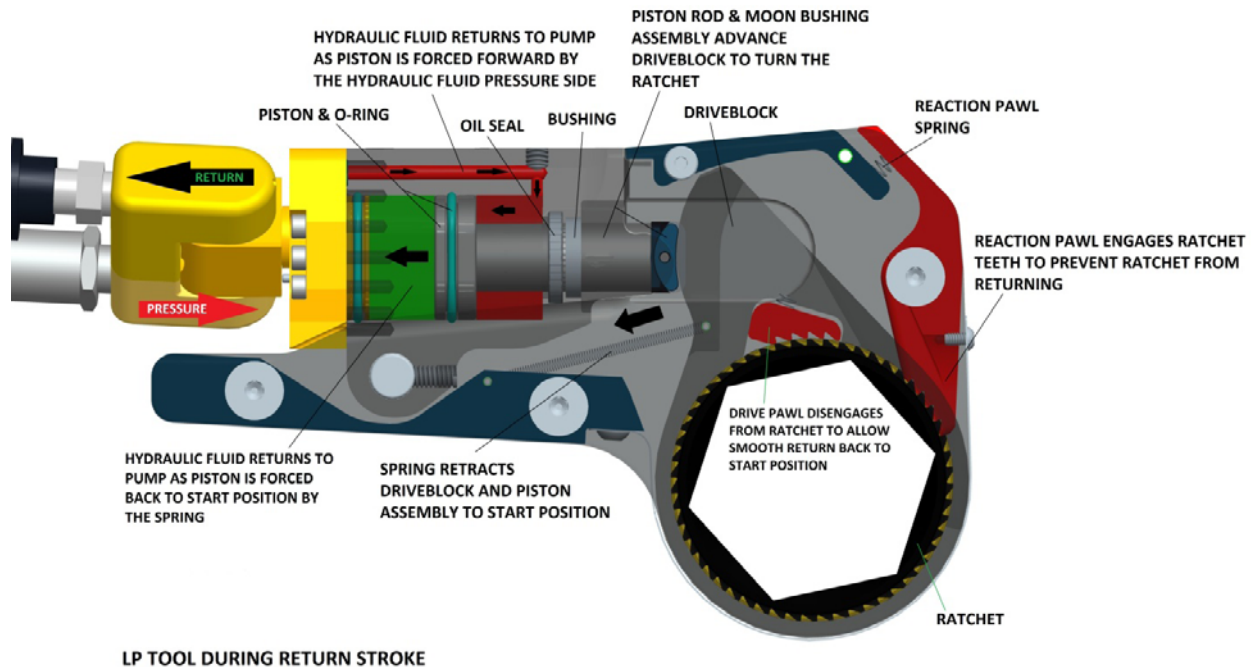

**Figure 15 LP Tool at End of Stroke**
2. Continue to hold down the advance button as the ratchet turns. You will hear several audible “clicks” of the reaction pawl as the ratchet turns. When these “clicks” stop, the piston is at the end of the stroke and pressure will increase rapidly. Figure 15 shows the tool at the end of its stroke.